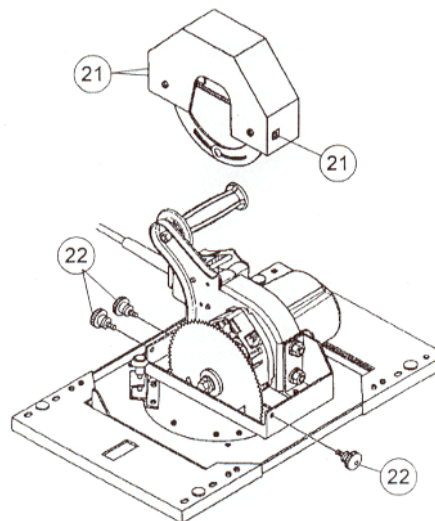
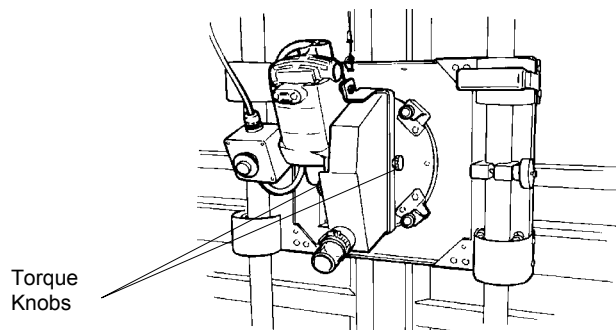

Figure 20: Installing the Blade Guard (Models C-4, H-4, H-5, H-6)
Figure 21: Installing the Blade Guard (Models 6400, 6800)
The blade guard is attached to the carriage with the red torque knobs (22), Figure 20 or Figure 21. Remove the torque knobs to remove the guard. Be sure to leave the rubber washers on the torque knobs because they prevent the knobs from slipping.